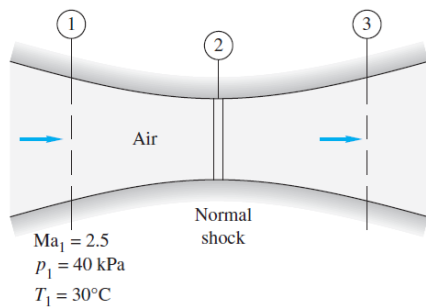

Fig. 9.12
9.12 Air flows through a duct as in Fig. 9.12, where $A_1 = 24$ cm², $A_2 = 18$ cm², and $A_3 = 32$ cm². A normal shock stands at section 2. Compute a) the mass flow, b) the Mach number, and c) the stagnation pressure at section 3.